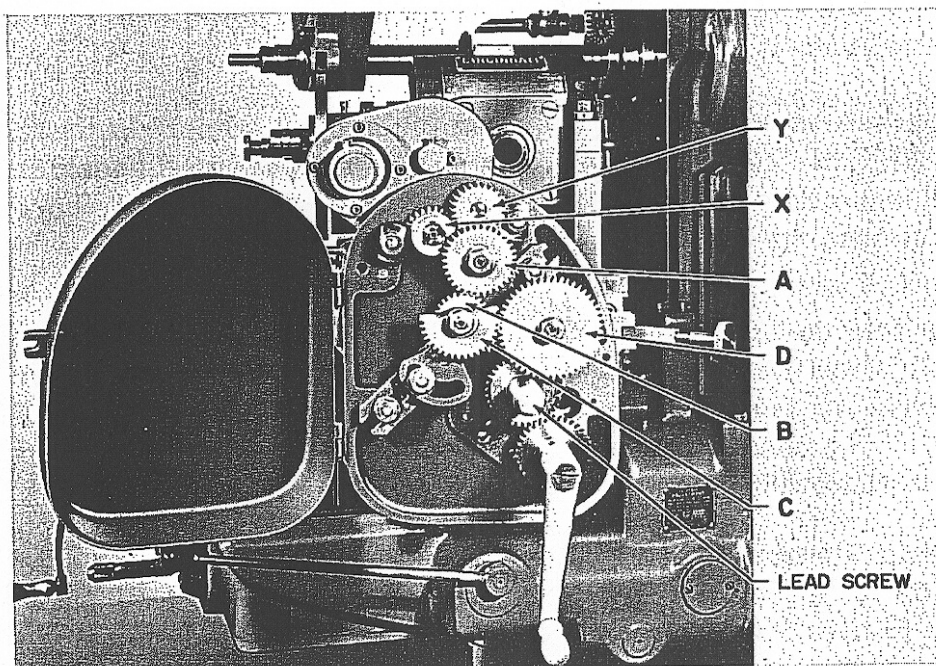

Figure 61B
Remove gear Y Reverse gear X	Gears X and Y as shown in Fig. 61B.
**Emergency Conversion to Short Leads.** With the 2½" to 100" Standard Enclosed Driving Mechanism, illustrated in Figure 61B, leads lower than those listed in the tables, pages 76 to 92, can be obtained, *using hand feed only* (rotating the index crank at the side of the head). To change the gearing for low leads, remove gear "D". A 34-tooth gear is now exposed, meshing with the 34-tooth gear on the lead screw (directly below gear "D"). Remove these two 34-tooth gears, and replace them with the standard 51-tooth change gear on the lead screw and the standard 17-tooth change gear on the stud for gear "D". Instead of a 1 to 1 ratio, we now have a speed-up of 3 to 1. Leads for the change gear combinations listed are now divided by 3. However, some of the change gear combinations are not obtainable because of interference with the segment.